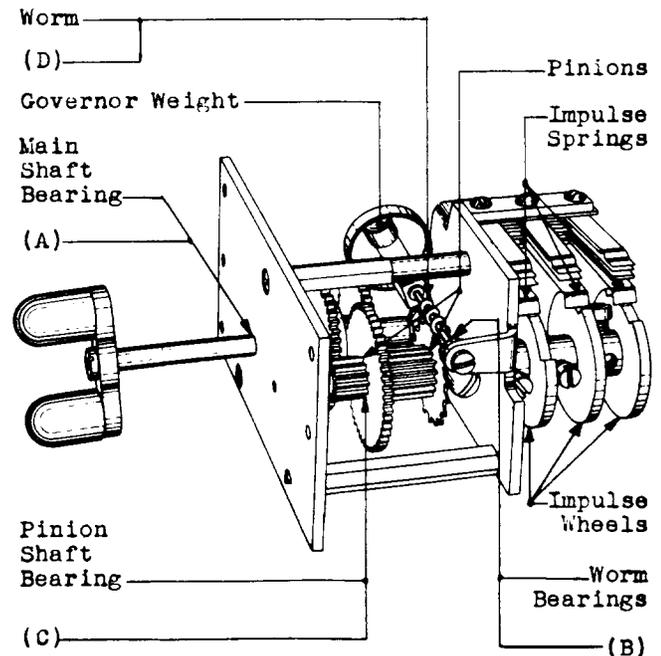

Fig. 1 - No. 491A Key
Main Shaft Bearings Fig. 1 (A)
Worm Bearings Fig. 1 (B)
Pinion Shaft Bearings Fig. 1 (C)
Worm Fig. 1 (D)